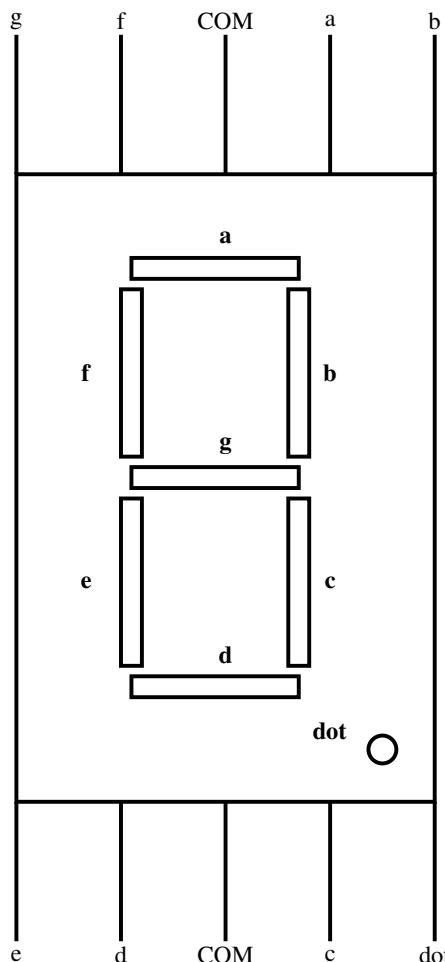

Fig. 2.2: Seven Segment pins
2. Seven Segment Display: The seven segment display in Fig. 2.2 has eight pins, a, b, c, d, e, f, g and *dot* that take an active LOW input, i.e. the LED will glow only if the input is connected to ground. Each of these pins is connected to an LED segment. The *dot* pin is reserved for the \cdot LED.
1. Make connections between the seven segment display in Fig. 2.2 and the 7447 IC in Fig. 3.1 as shown in Table 3.1